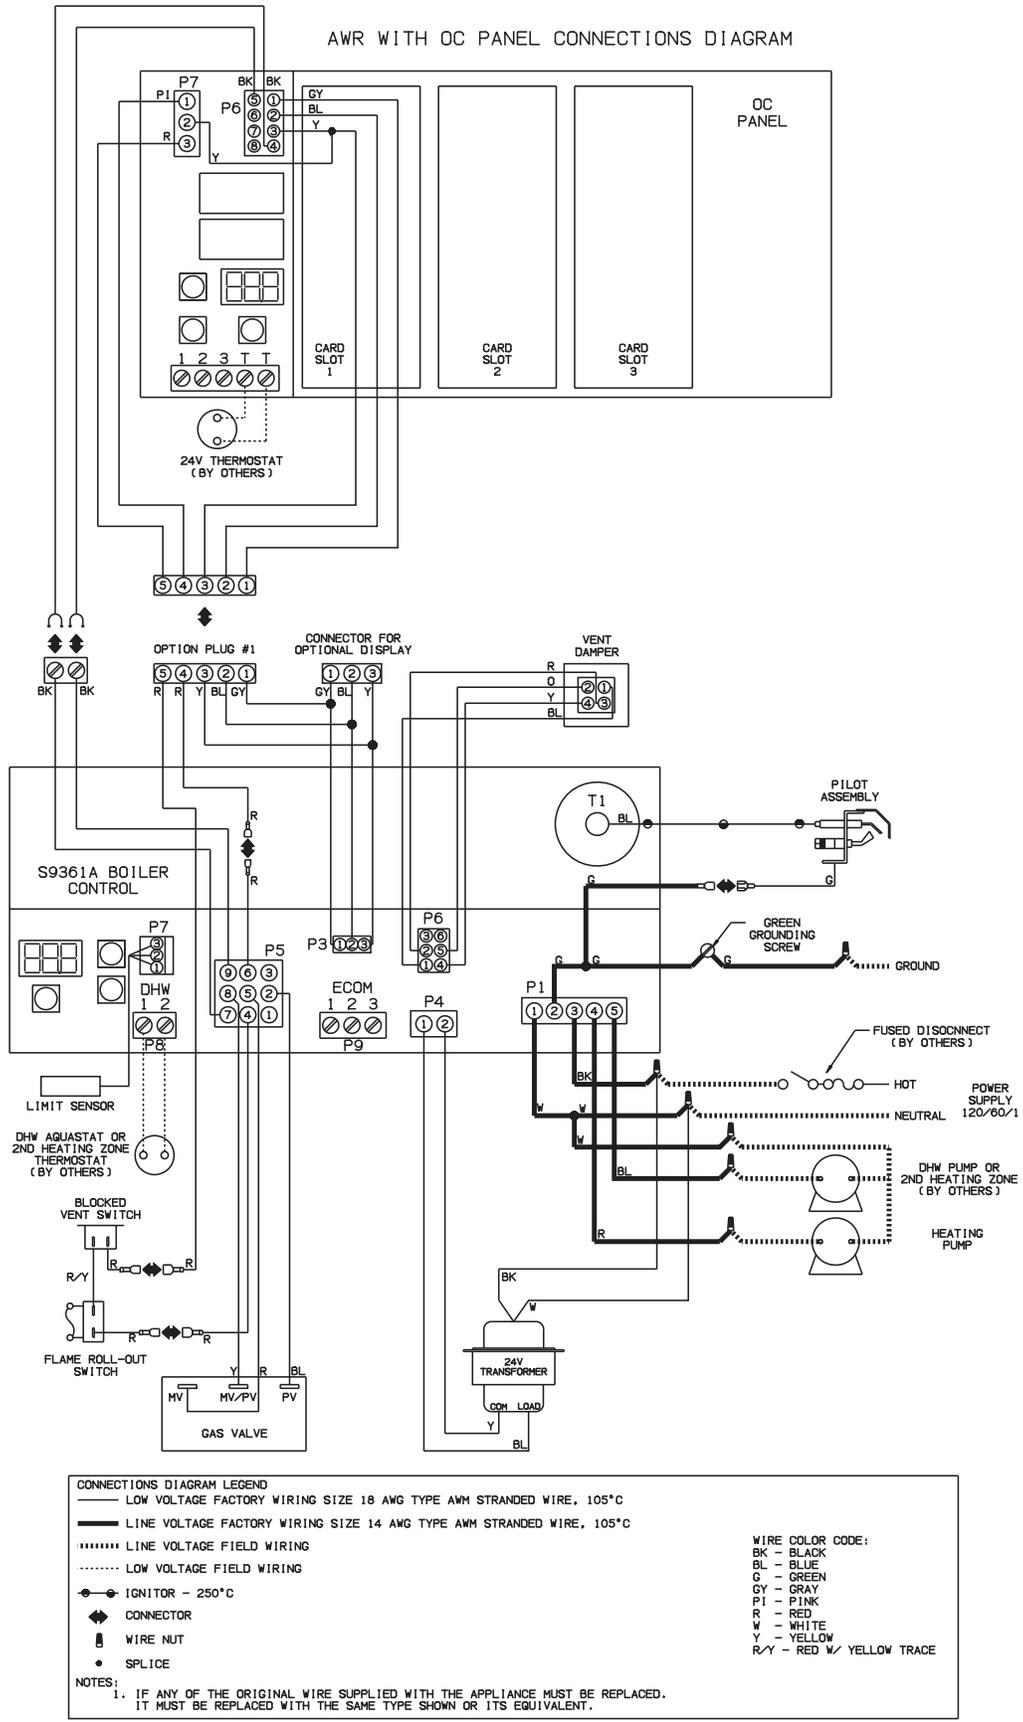

FIGURE 3: WIRING CONNECTIONS DIAGRAM FOR THE OC PANEL ON AWR BOILERS
4. Insert the 3 pole Molex connector into the P7 plug on the Option Panel and insert the 8 pole Molex connector into P6 plug on the Option Panel. For Steps 4 thru 8 see Figure 3.